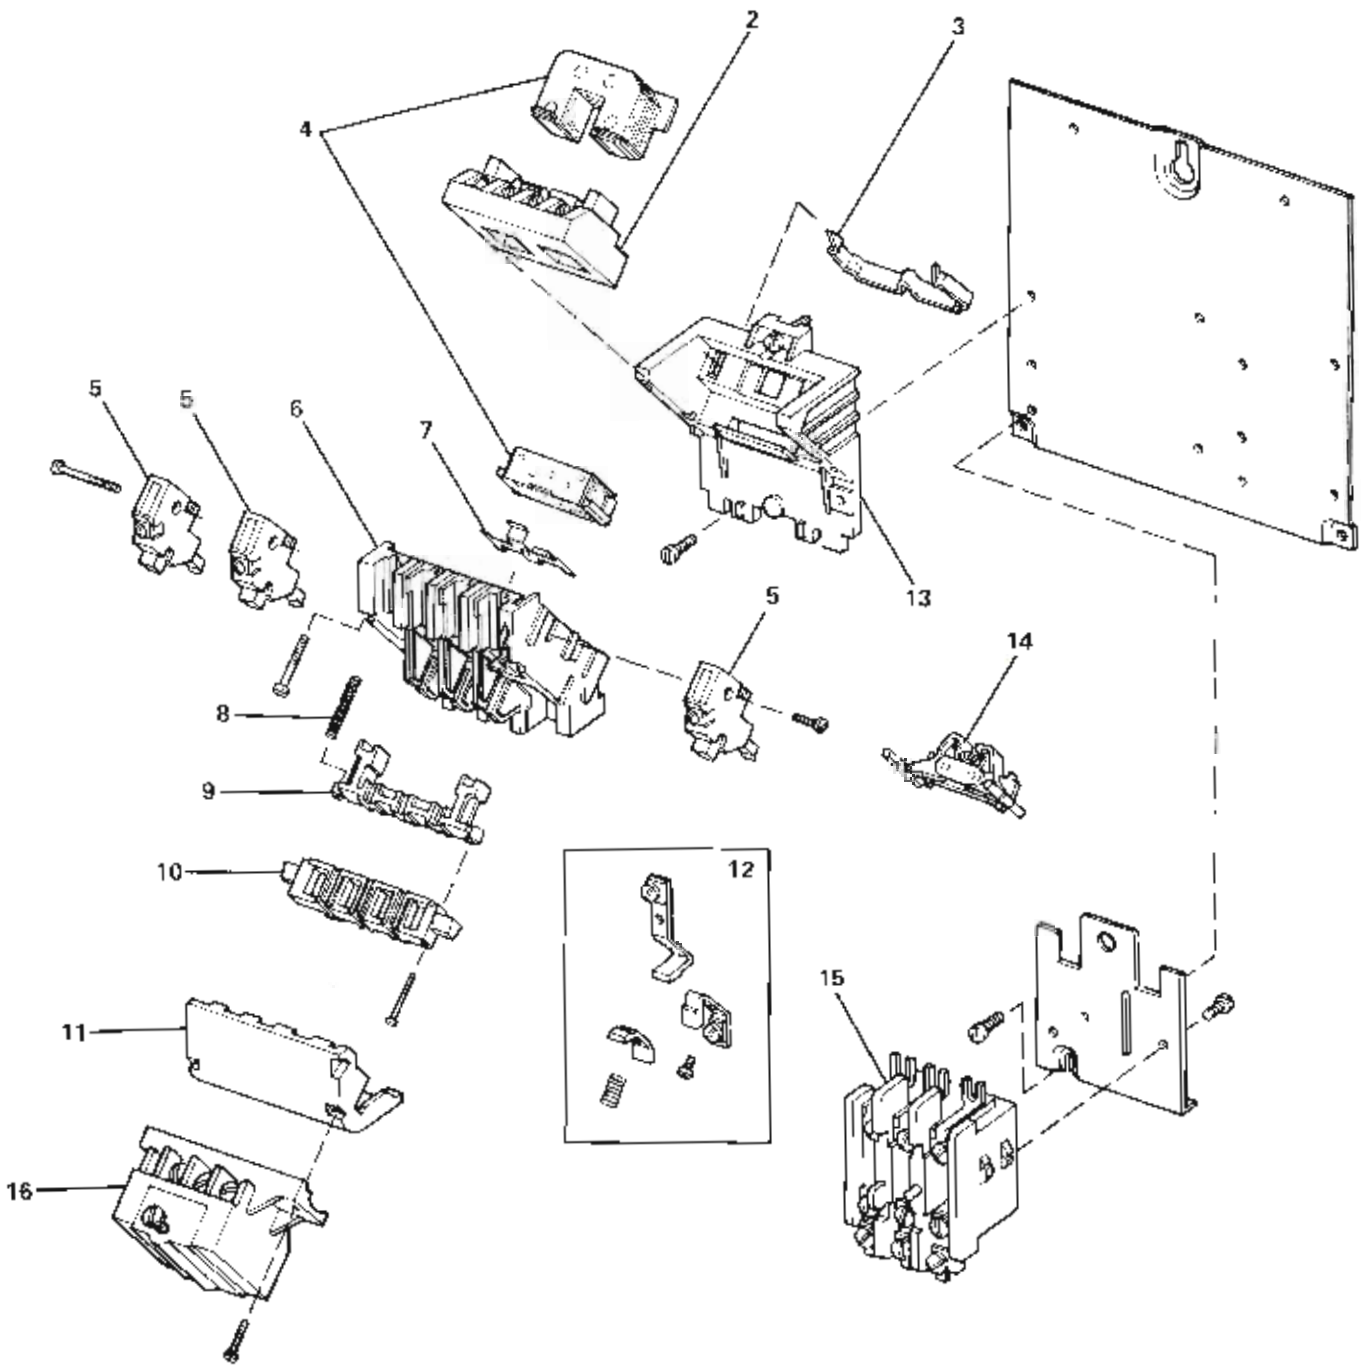
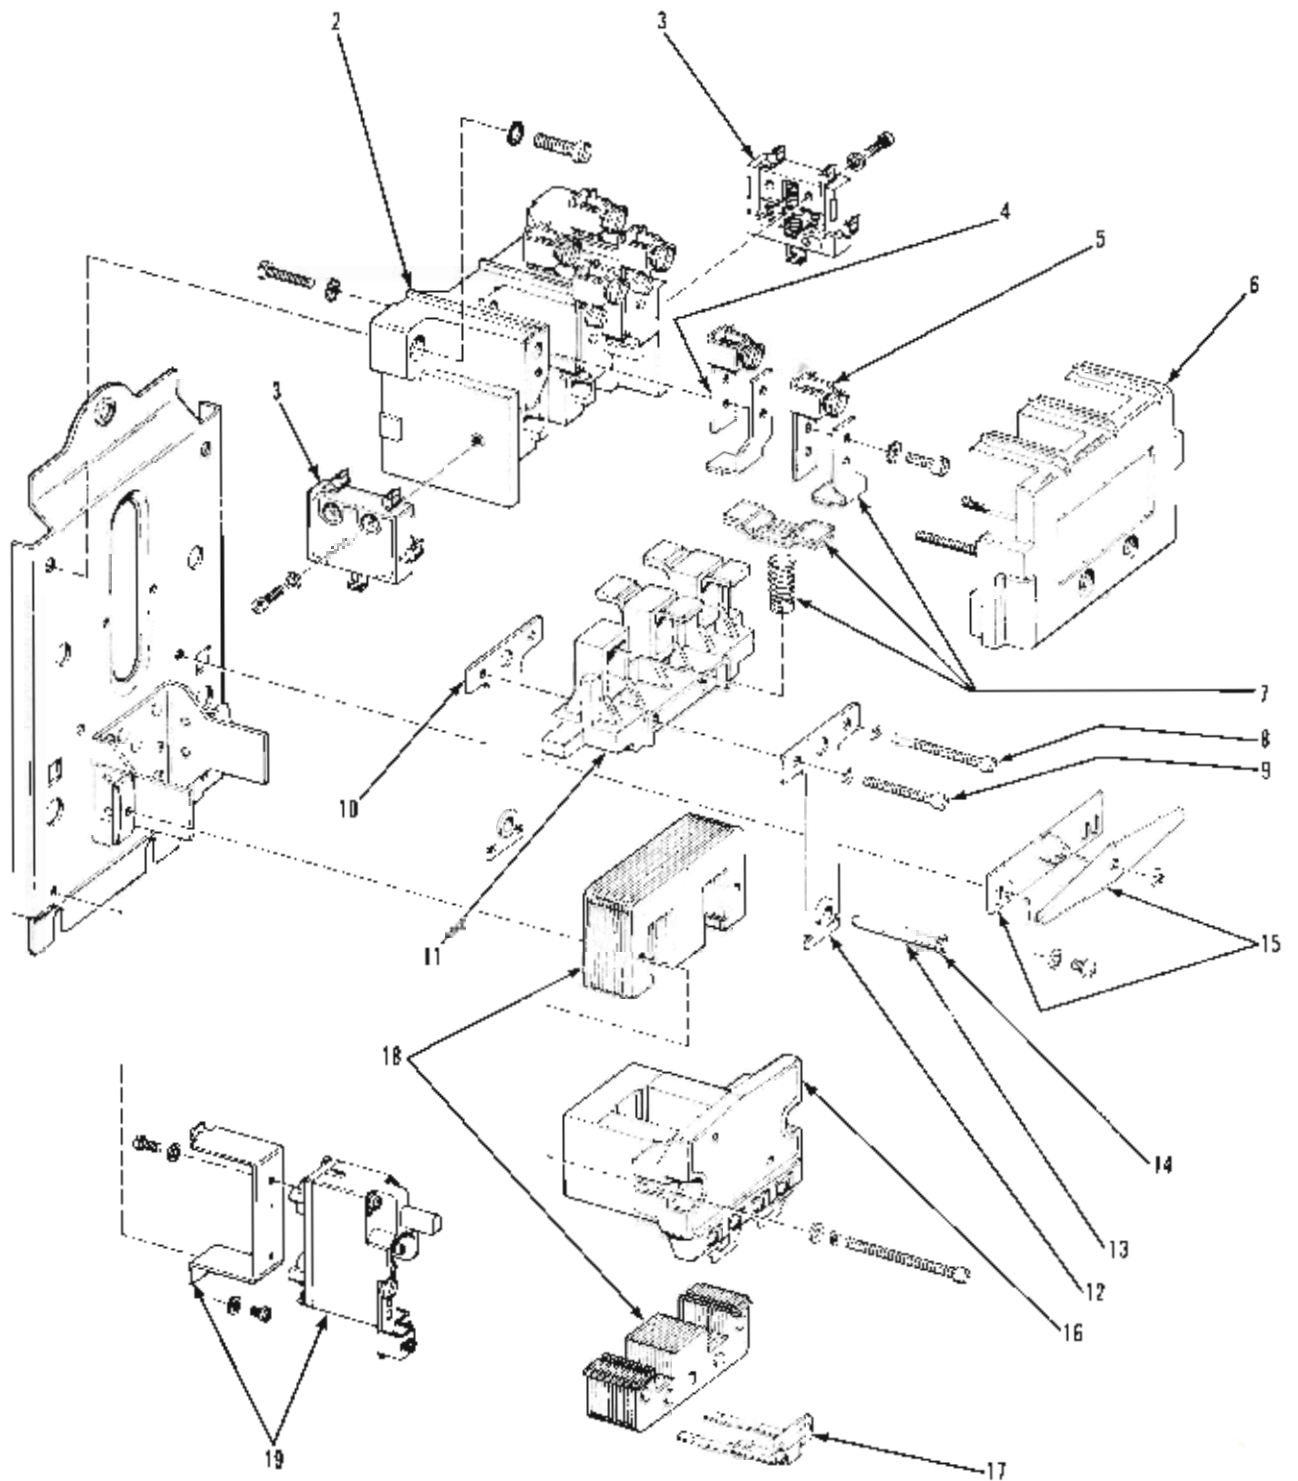

Figure 5-33. P&H Innova Reversing Contactor
Figure 5-34. Older Type P&H Reversing Contactor
P&H CONTACTORS. Two types of P&H contactors are in use in hoist control systems. The newer type ("Innova") is shown in Figure 5-33. The older type is shown in Figure 5-34. Contact replacement and coil replacement procedures for the "Innova" type are covered in steps 1 and 2, below. Similar procedures for the older type are covered in steps 3 and 4. Proceed as follows:
- b. Remove overload block (15, Figure 5-33) and its mounting plate.
- c. Unclip and remove cover (11).
- d. Remove the two screws securing cross arm (10) to base (9).
- e. Remove the movable contacts and springs from cross arm (10). Carefully note the positions of the movable contacts and spring prior to removal.
- f. Disconnect the leads from the stationary contacts and remove the stationary contacts from contact board (6).
- i. Install cover (11) and overload block (15), with its mounting plate.
- b. Push the ears of clip (3, Figure 5-33) outward. Coil (2) and the armature will release for easy removal.
- c. Insert the armature in the new coil and reinstall the coil. Push the coil in against clip (3) until the clip engages the coil firmly.
3. Replace contacts in the other style of reversing contactor as follows (see Figure 5-34):
- b. Loosen the two attaching screws and remove contact board cover (6).
- d. With a screwdriver, carefully lift the movable contact springs from crossarm (11). Then, remove the movable
- f. Install contact board cover (6).
4. Replace the coil on the other style reversing contactor as follows (see Figure 5-34):
- c. Remove the two screws securing coil (16) and magnetic and armature assembly (18) to the base plate.
- d. Pull retainer clip (17) and separate the coil from the magnet and armature.
- e. Assemble the magnet and armature to the new coil and install retainer clip (17).